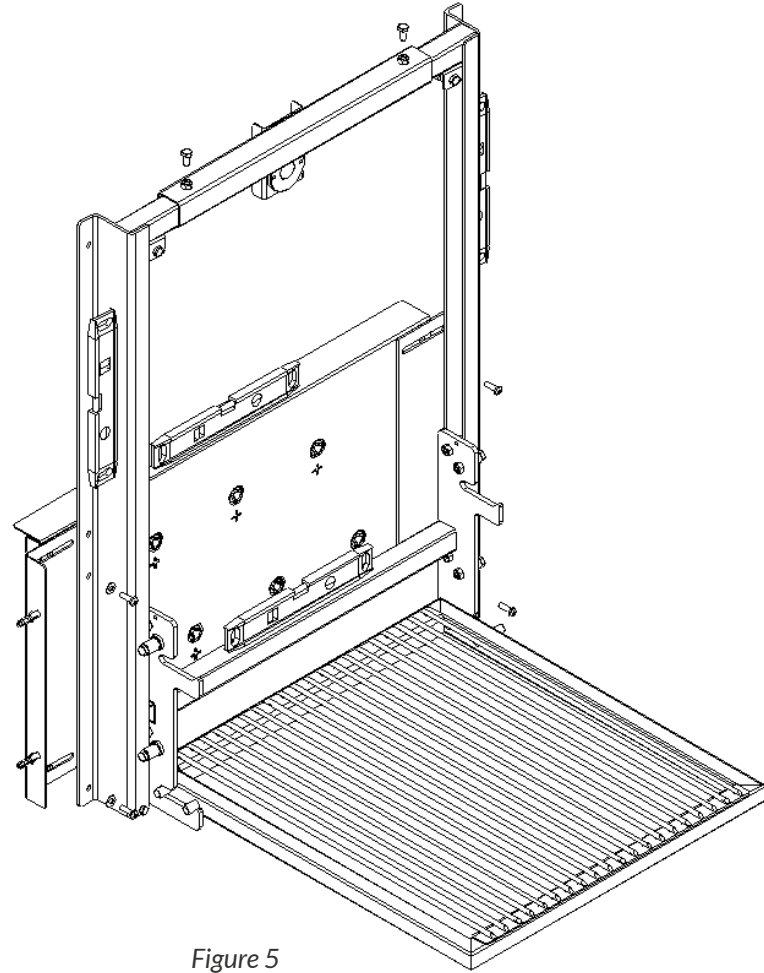

Figure 5
c) When the equipment is mounted in conjunction with the Rotating Grill (centralized or lateral), your equipment should be fixed in the Rotating Grill's drilling as shown in Figure 5.